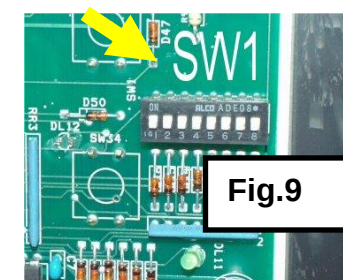

Fig.9
2. Move the switch 1 di SW1 in position ON (please refer to fig.9).
7. Move back the switch 1 of the SW1 to position "ON" (please refer to fig.9).
13. Move back switch 1 of the SW1 to position "OFF" (please refer to fig.9).
8. Move back switch 1 of the SW1 to position "OFF" (please refer to fig.9).